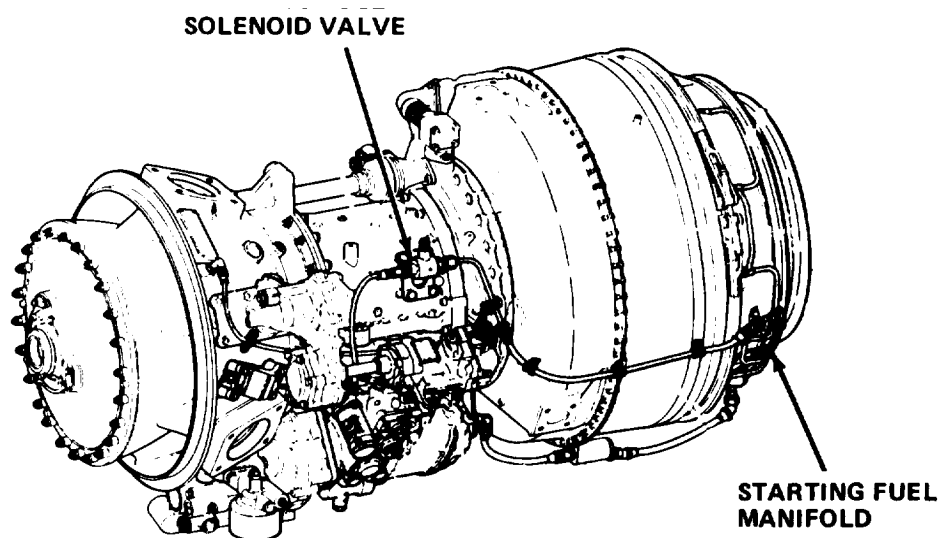

Figure 1-12. Starting Fuel System (T53-L-11 Series Engines)
**1-16. Starting Fuel System (T53-L.11 Series Engine).** During engine start this system (fig. 1-12) delivers starting fuel to combustion chamber. Actuating primer fuel switch opens starting fuel solenoid valve. This allows fuel from the control to flow through starting fuel manifold, two starting fuel nozzles, and into combustion chamber where it is ignited by two igniter plugs. When N1 reaches sufficient speed, ignition system is deenergized. Solenoid valve closes and stops flow of starting fuel, Starting fuel nozzles are self-purging and automatically remove excess fuel. At low ambient temperatures, JP-5 fuel may cause slow engine starts.